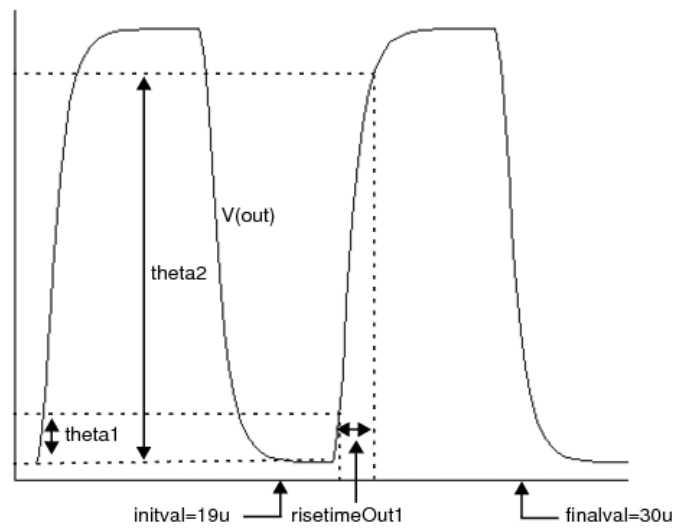

Figure 1 ADE Rise Time Calculation
- a. For rise time use (see Figure 1):